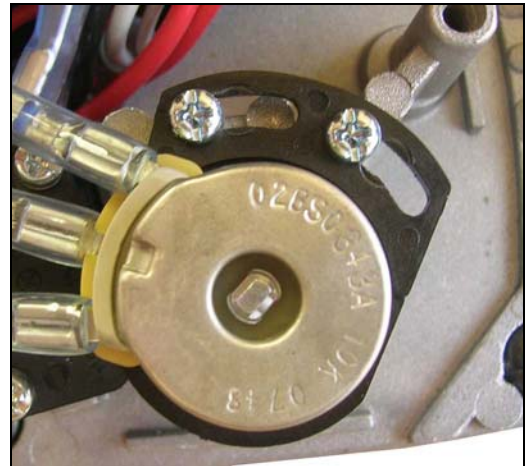

Fig 6
- If the unit is stuck at 0% elevation, turn the pot clockwise until the screw are completely to the left side of the pot slots (Fig. 6). Tighten the screws.